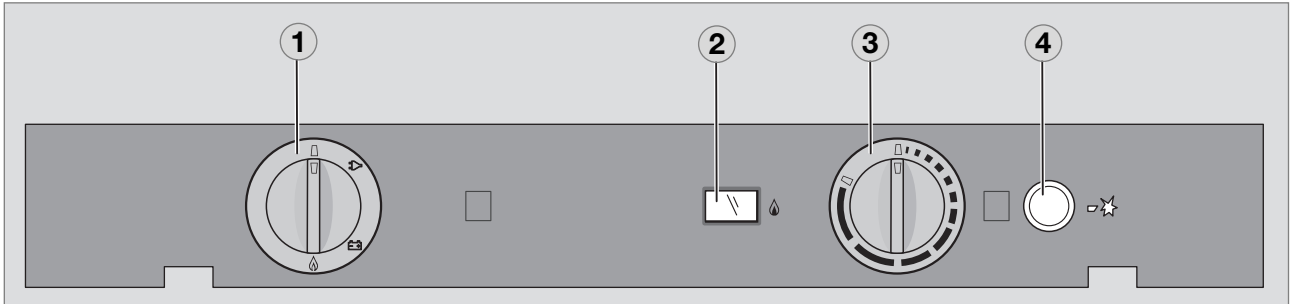

Fig. 5
- Set the energy selector switch (Fig. 5, page 14) to position "OFF". The appliance is switched off). Within 20 seconds the gas valve should automatically close. The flame is off.